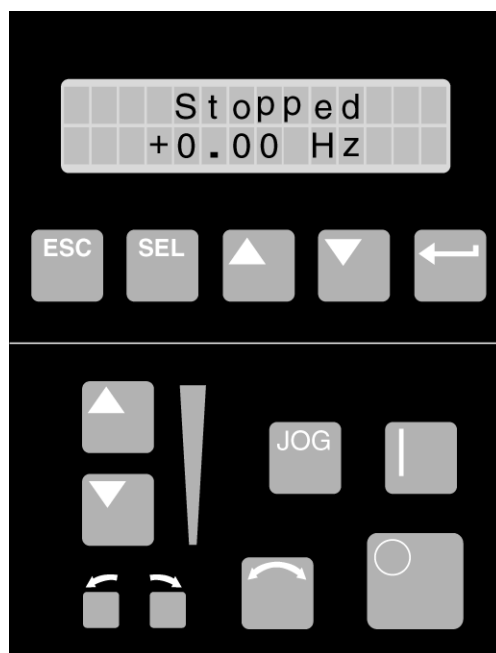

Figure 17.1 DISPLAY PANEL
1. The status display must read "Stopped + 0.00 Hz" (see figure 17.1).